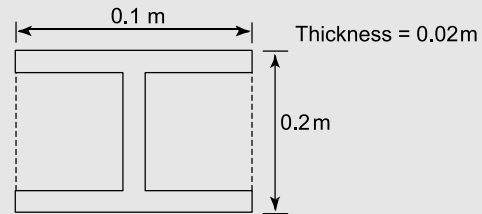

Figure 9.27
- Problem 16.** Determine the second moment of area about a horizontal axis passing through the centroid, for the I beam shown in Figure 9.27.